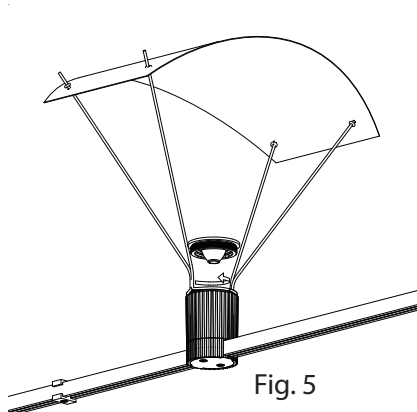

Fig. 5
4. Place the **Reflector Ring** on the Cylinder Light Engine and adjust to the desired angle. (Fig. 5)